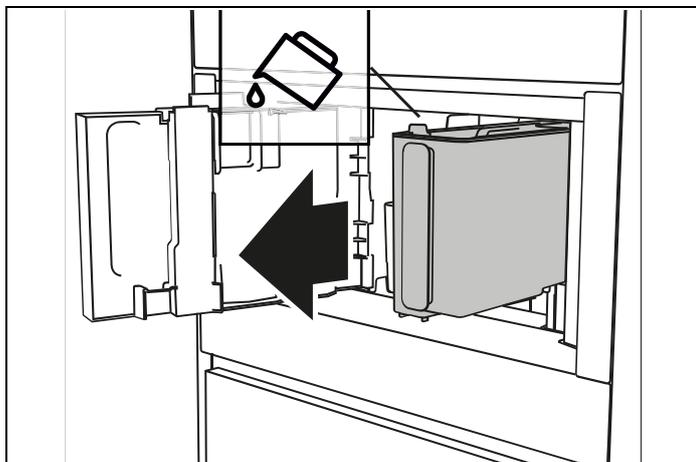
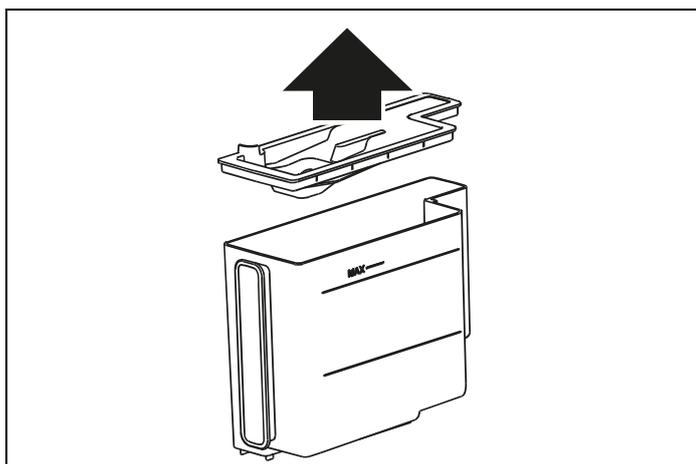
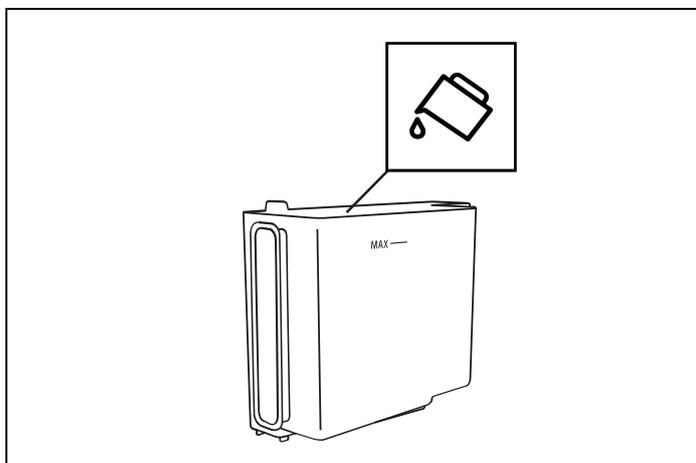
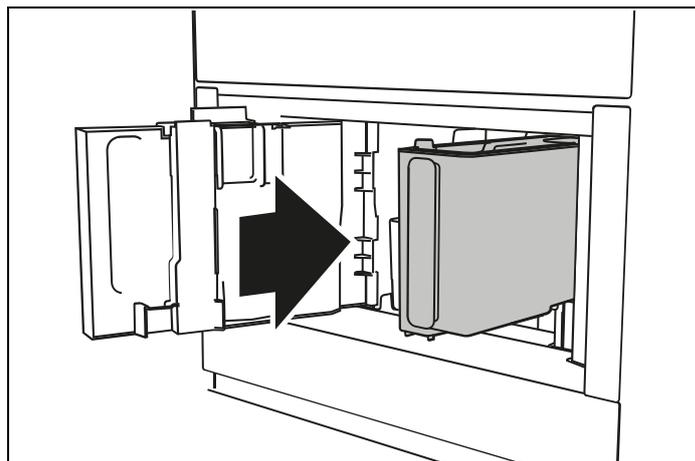

Fig. 17
Fig. 18
Fig. 19
Fig. 20
- 3) **FILL WATER TANK WITH FRESH WATER:** remove the water tank (A12) (Fig. 17), open the lid (Fig. 18), fill to the MAX line (marked on the inside of the tank) with fresh water (Fig. 19); close the lid and put the tank back into the appliance (Fig. 20);